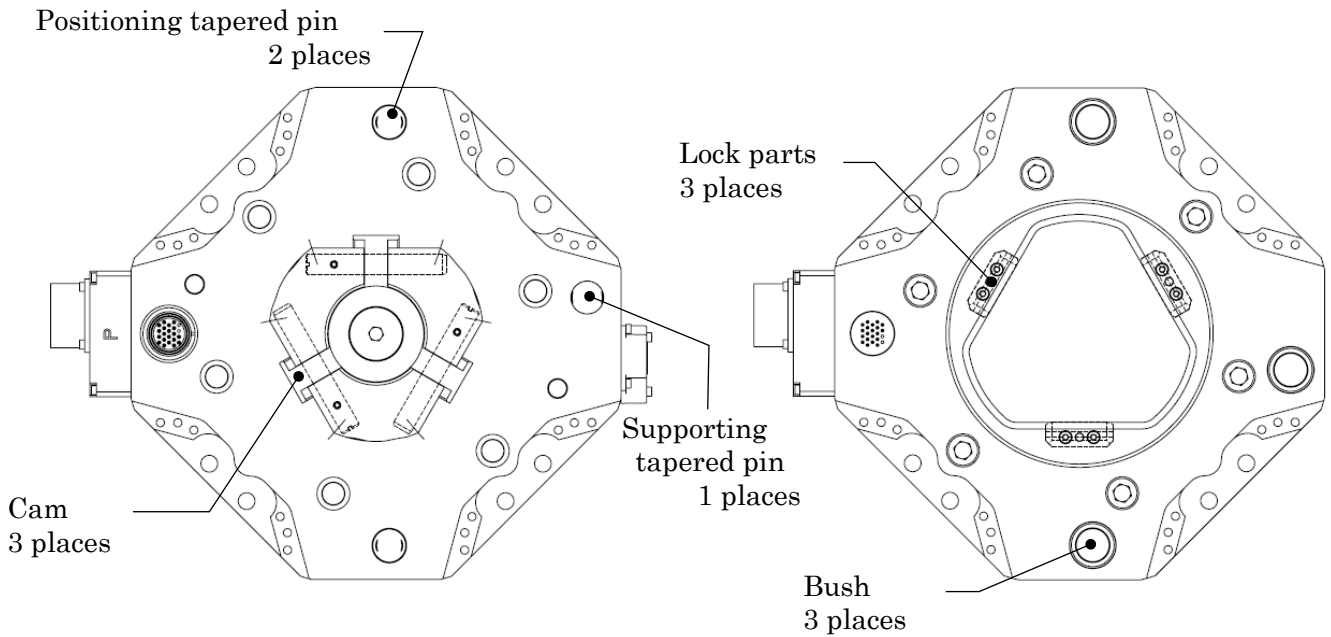

**Fig. 5.** An example of cable fixing
**⚠ CAUTION** Robot side cables must be securely tied together with other cables and tubes and fixed around the robot adaptor's connector part by using a spiral tube or banding band, etc. Also ensure that cables and tubes are free of any excessive force while the robot's wrist axis is rotating. Excessive force applied onto cables and tubes may break a connector of the joint part and an electric module, etc. or cause open-circuit. It may also cause any electric shock hazard and sparking. An example of cable fixing by a bracket is shown in Fig. 5